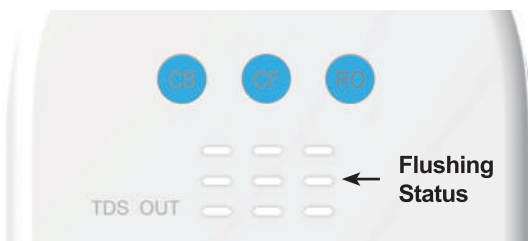

Figure 22
**NOTE:** There will be one beep. The filter life indicators will flash blue, yellow and red in turn and then turn blue for 5 minutes (Figure 22). Do not turn on the RO faucet. Allow the system to flush automatically for 5 minutes. The three indicator lights will be off when the flush is complete.